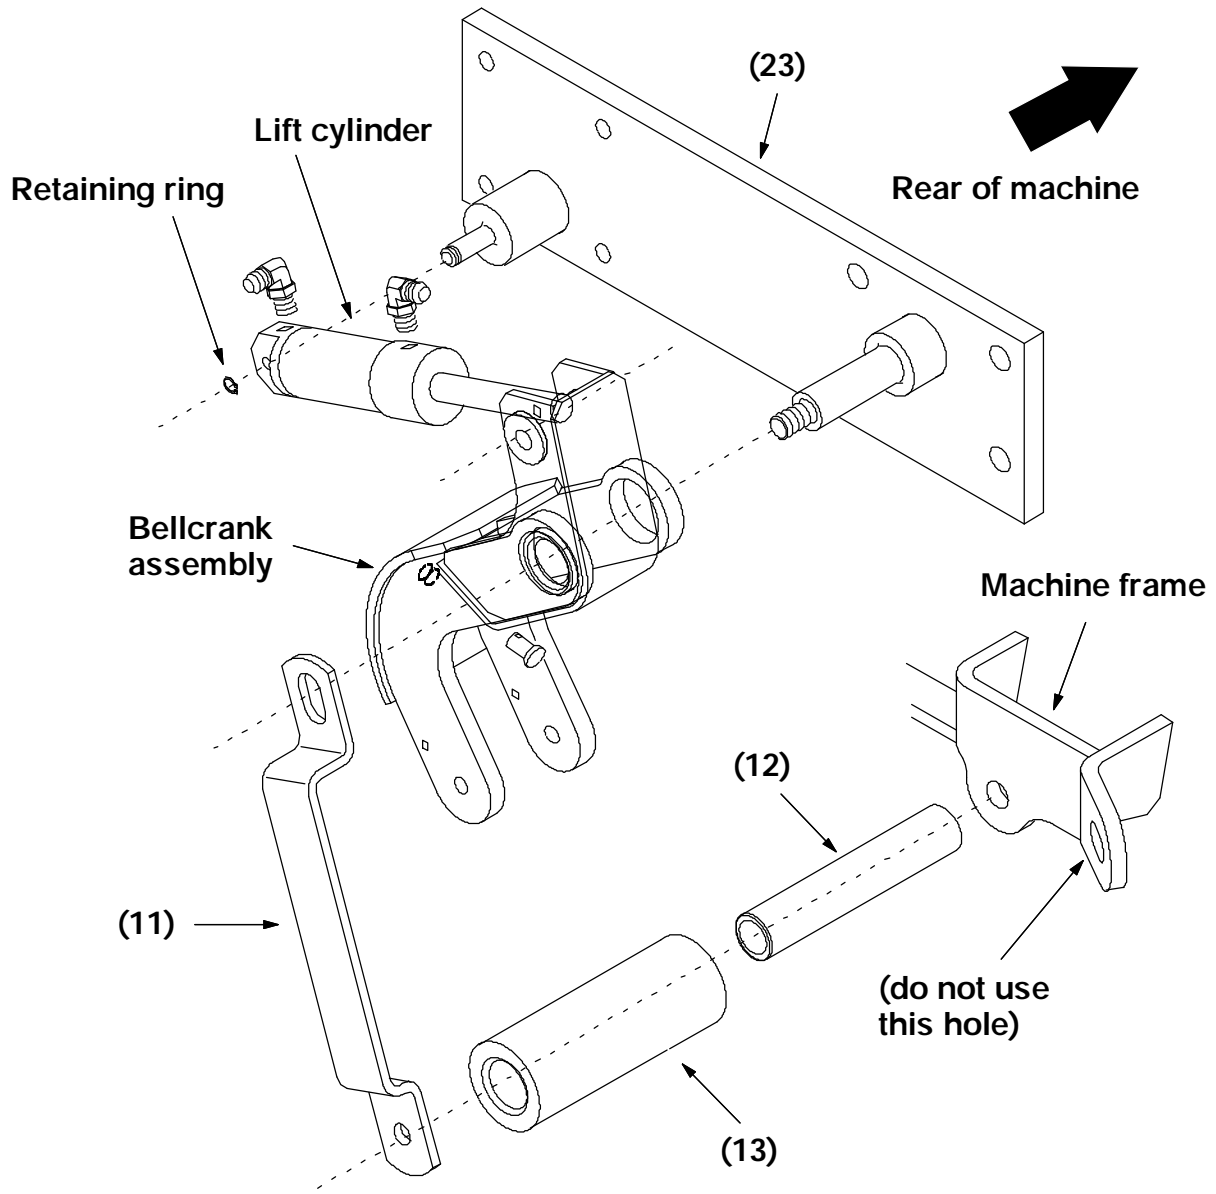

FIG. 5 – Squeegee Lift Assembly
7. Position the bellcrank assembly on the large pin on the pivot weldment (23). (Refer to Fig. 5)
8. Position the slotted end of the gusset bracket (11) over the top of the bellcrank assembly. (Refer to Fig. 5)
9. Install the M12 nyloc nut (10) and washer (9) on the pivot weldment pin over the top of the gusset bracket (11) and bellcrank assembly. Leave the nut loose for now. (Refer to Fig. 5)
10. The other end of the gusset bracket (11) is assembled to the machine frame using the M10 hex screw (14) and nyloc nut (15). The new roller (13) and sleeve (12) are positioned between the gusset bracket (11) and the machine frame. Use the hole in the **flat** that was left empty after the two rollers were removed in step 8 of the PREPARATION instructions. **Do not** use the hole on the angle. (Refer to Fig. 5)
11. Tighten the M12 nyloc nut holding the gusset bracket (11) and bellcrank assembly to 64 – 83 Nm (47 – 61 ft lb). Make sure the roller rotates freely after installation. (Refer to Fig. 5)
12. Tighten the M10 hex screw (14) and nyloc nut (15) holding the gusset (11), sleeve (12), and roller (13) to 37 – 48 Nm (26 – 34 ft lb). Make sure the roller rotates freely after installation. (Refer to Fig. 5)
13. Position the piston end of the lift cylinder on the small pin on the pivot weldment (23). Reinstall the retaining ring. (Refer to Fig. 5)
14. Position the rod end of the lift cylinder in the upper bellcrank (6). Install the clevis pin (28), washer (29), and cotter pin (30) from this kit. (Refer to Fig. 5)
(Refer to Fig. 5 and 6)